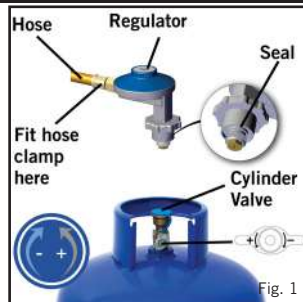

Fig. 1
- The hose and seal on the regulator must be checked for wear or damage before every use and before connecting to the gas cylinder (see fig.1).
- Carry out this check each time you fit the appliance to a gas cylinder (see fig. 1).